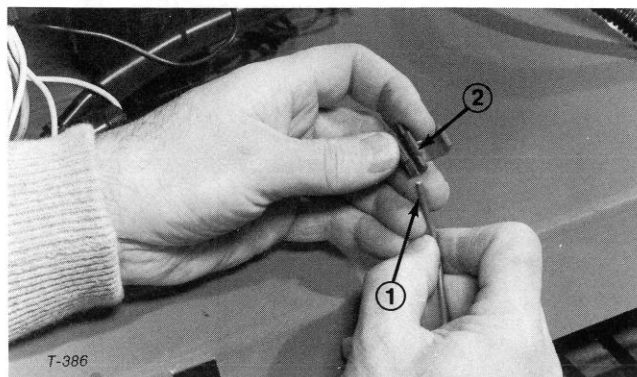
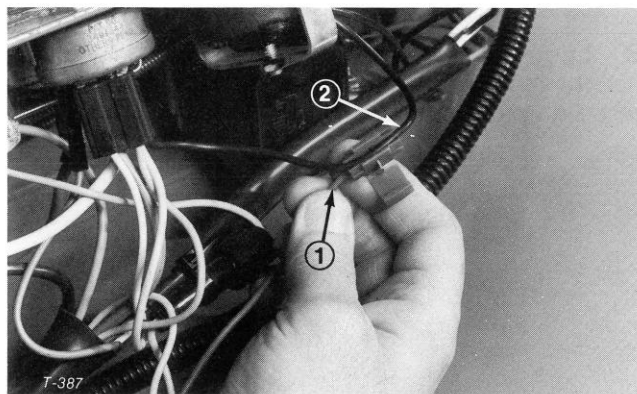

Figure 34
Figure 35
4. Route harness under control panel. Insert red harness wire end into tap connector (Fig. 34) until wire end butts up against stop in connector (Fig. 35).
5. Hold red wire against stop in tap connector and position black wire leading from ignition switch to hour meter into slot in connector (Fig. 35).